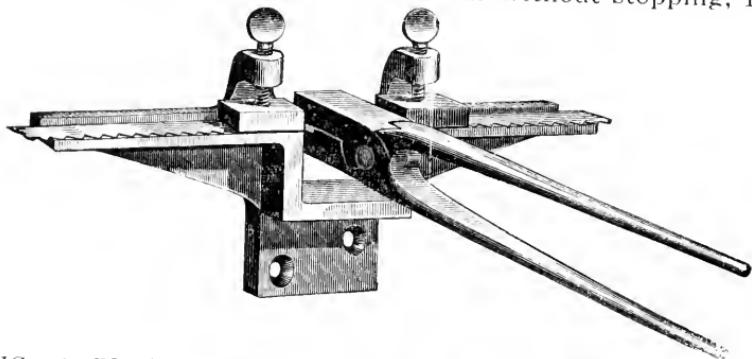

FIG. 40—BRAZING TONGS IN POSITION AFTER HEATING
42. Brazing -- A brazing clamp with tongs is illustrated in Figs. 40 and 41. Before joining, the ends must be filed at an angle so as to give a good bevel fit to the ends. (Be sure that the joint after
brazing will be no thicker than any other part of the saw.) Both ends of the saw are then secured in the clamp, as shown in Fig. 40. The edges must be parallel, that is, the back edges of the two ends of the saw must form a straight line, otherwise the saw will run badly and break soon after it has again been placed on the machine. This may be kept straight, if the back edge of the saw is placed firmly against the straight edge which forms the back part of the clamp.
For a flux, use a thin coating of borax paste. This is prepared by grinding the borax on a specially prepared slate, with a small amount of water. A thin piece of sheet silver solder, just the size of the joint, is then placed in the lap. The brazing tongs heated to a bright red, are next placed over the joint, as shown in Fig. 40. However, be sure that you first scrape the scale off